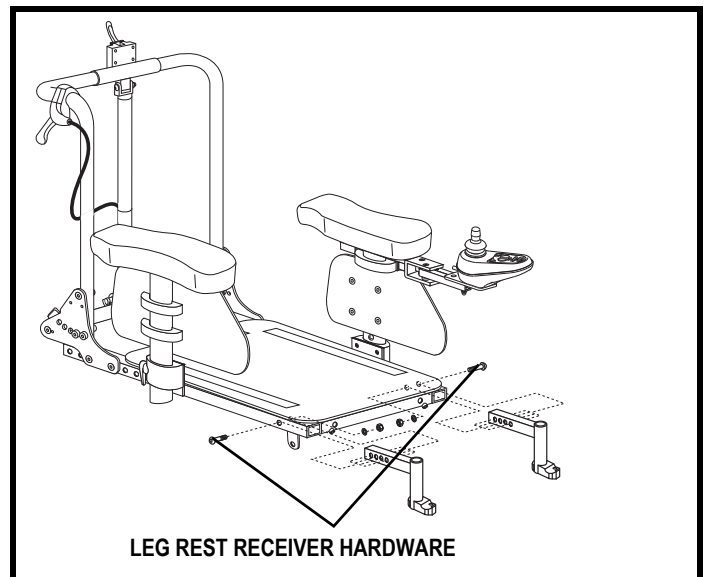

Figure 15. Leg Rest Depth Adjustment
1. Loosen the leg rest receiver hardware. See **figure 15**.